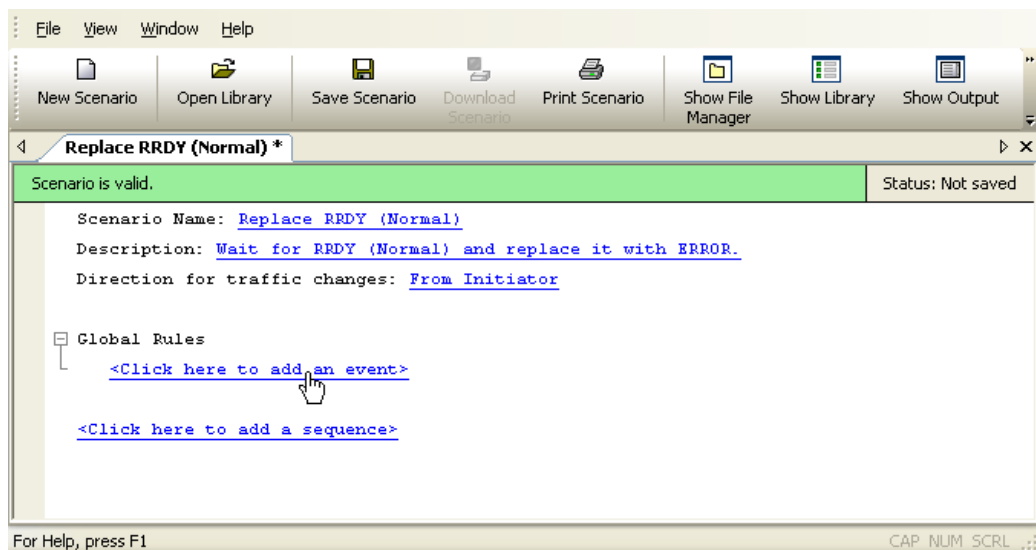

Figure 49 Example 2: Entering the Event
Step 2 In the Global Rules area, click on the prompt to **add an event** (Figure 49). This brings up the Event dialog box.